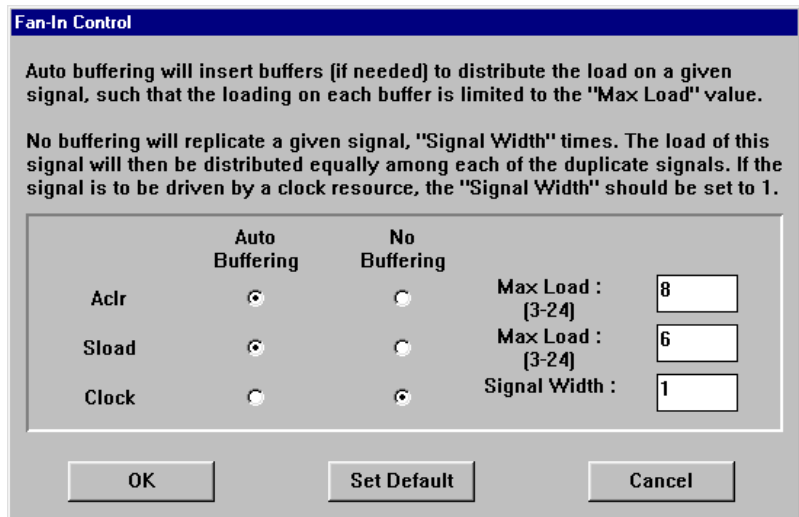

Figure 4-2. Fan-in Control Dialog Box
- 6. (Optional) Set Fan-in Control.** If you wish to alter fan-in for control signals, specify the specific macro type and set macro variations first. Choose the Fan-in Control command from the Options menu. The Fan-In Control dialog box, shown in Figure 4-2, is displayed. Set the desired buffering type and value for each signal. Refer to “Fan-in Control Tool” on page 46 for additional information.
4. **(Optional) Set Fan-in Control.** If you wish to alter fan-in for control signals, specify the specific macro type and set macro variations first. Choose the Fan-in Control command from the Options menu. The Fan-In Control dialog box, shown in Figure 4-2, is displayed. Set the desired buffering type and value for each signal. Refer to “Fan-in Control Tool” on page 46 for additional information.
The Fan-in Control dialog box, shown in Figure 4-2, consists of three information/control columns. The first column defines the signal name. The second column specifies automatic or no buffering for the signal. The third column displays assigned buffering values where the actual value is entered. The description for this column changes depending